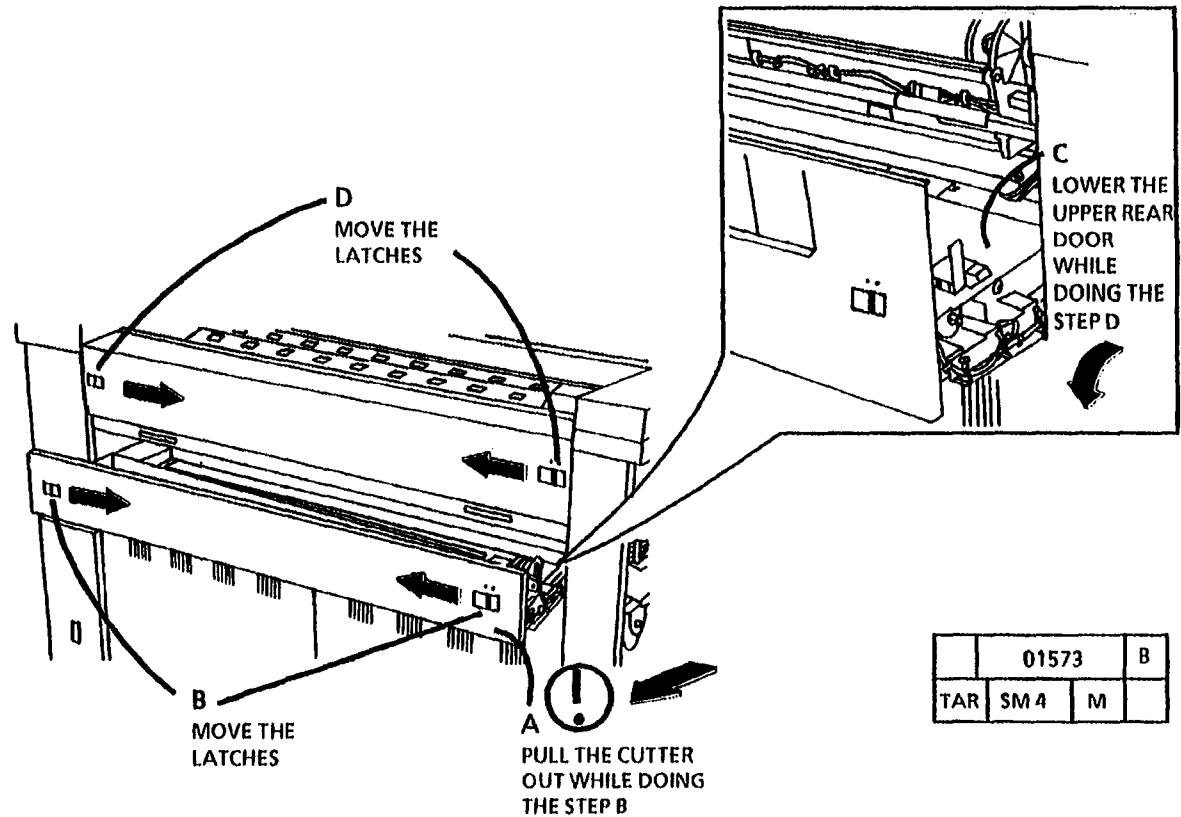

Figure 1. Lower the Upper Rear Door
2. (Figure 1): Lower the Upper Rear Door.